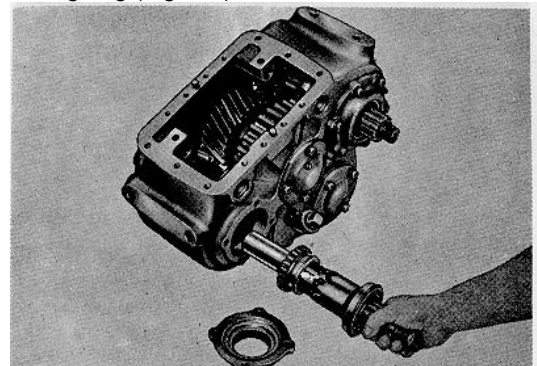

Fig. 37.
27. Install sliding collar on shaft. Slide shaft into case (Fig. 37).